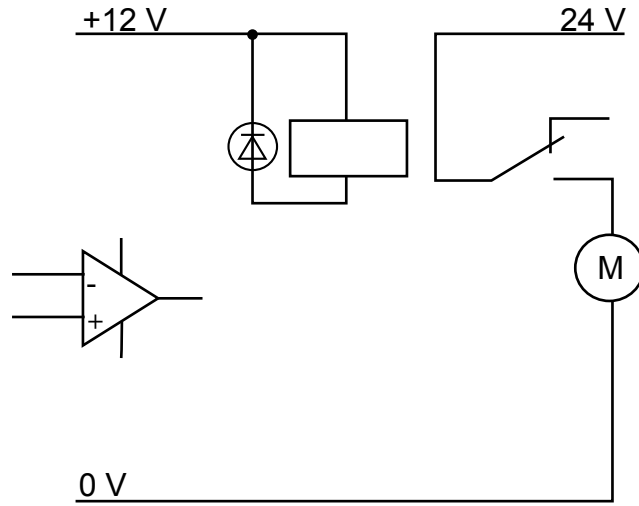

Fig. 34
- (v) The high output of the CA3140 operational amplifier is +10 V with a maximum current of 10 mA, which is not enough to operate the motor. Complete Fig. 34 to show a transistor circuit that will operate the relay to switch the motor on and off.